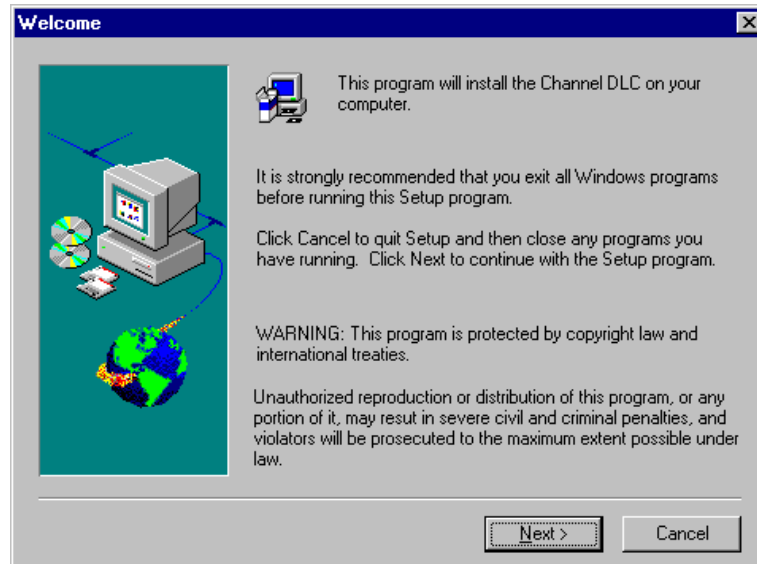

Figure 7-2. Welcome Screen
2. After Setup prepares, the Welcome screen (Figure 7-2) will be displayed. Click on **N**ext to proceed with the installation.